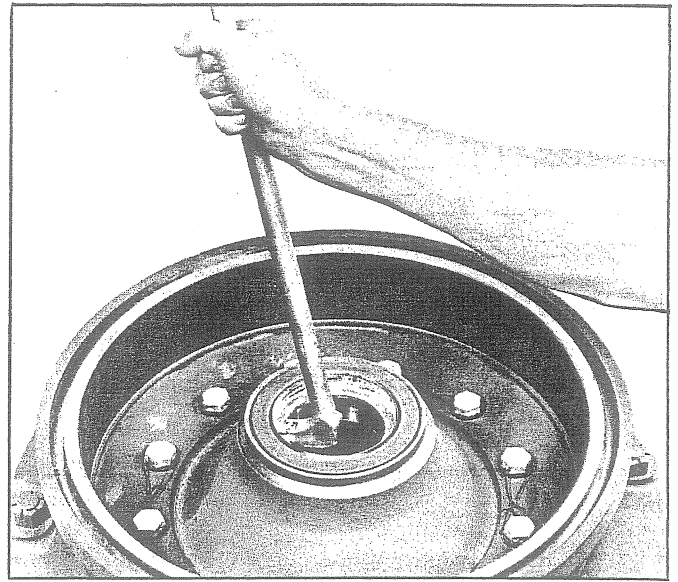

Fig. 42 - Removing Oil Seal
1. Pry oil seal from hub as shown in Fig. 42.
4. Reinstall drum to hub aligning "match marks". Secure with retaining bolts and tighten to 160-175 ft.-lbs. torque. Lock wire bolts in pairs. See Fig. 42.